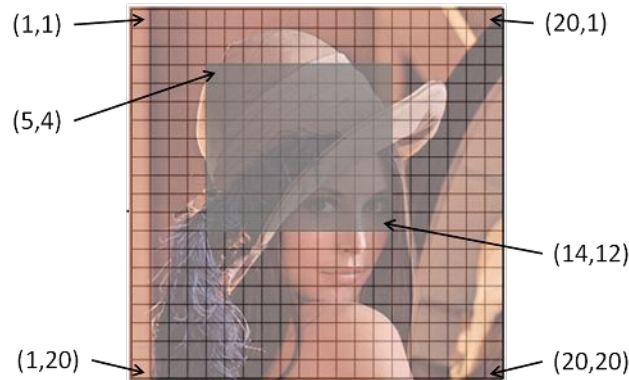

Figure 4. 20x20 pixels image example with grid
When images are decoded, the RLE Decoder also has the ability to extract a smaller image or portion of the original RLE-compressed image. The images are divided into a virtual grid of pixels where it is possible to select the start position and end position. Figure 4 is an example of an image with the grid division.
- d. Configure the area of interest: set the start pixel coordinates, RLE_DEC_SPCR, and final pixel coordinates, RLE_DEC_EPCR. The area of interest can be the same original image or a smaller part from the original image. Check Figure 4 coordinates example.